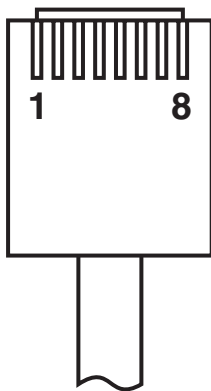

Figure 3-2. RJ-45 plug (male) clip at rear.
6. Connect the sub-channels to your equipment. Pin assignment of the RJ-45 sub-channel connector is given in **Table 3-1**. For a description of the RJ-45 connector, see **Figure 3-2**.
Twelve RJ-45 8-pin jacks located on the top panel enable end users to be connected to the unit. Detailed information about the signals present at this jack and pin configuration are given in **Table 3-2** and **Figure 3-2**.